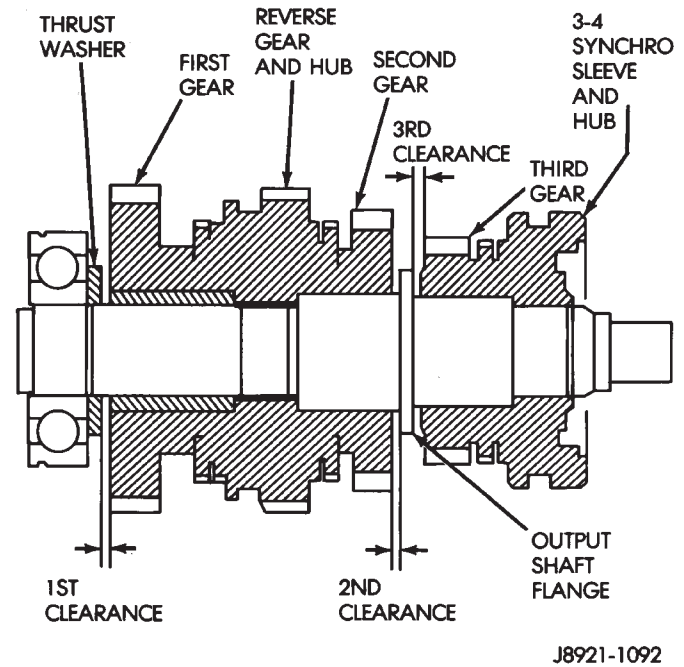

Fig. 62 Checking Output Shaft Gear Thrust Clearance
(1) Measure thrust clearance of output shaft first, second and third gears with feeler gauge (Fig. 62).
- (3) Press fifth gear and rear bearing off rear of output shaft.
- (4) Remove thrust washer, pin, and first gear and bearing (Fig. 62).
If shaft flange thickness is OK but previously measured second/third gear thrust clearance was incorrect (Fig. 62), replace the necessary gear and needle bearing as an assembly.